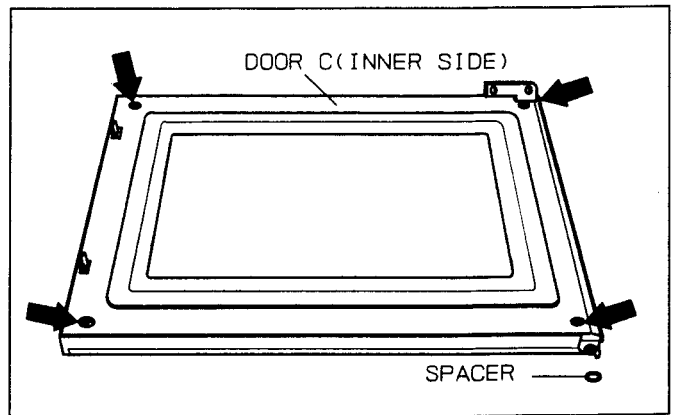

Fig. 21
- (C) Remove 4 screws holding the door C. (Fig. 21)